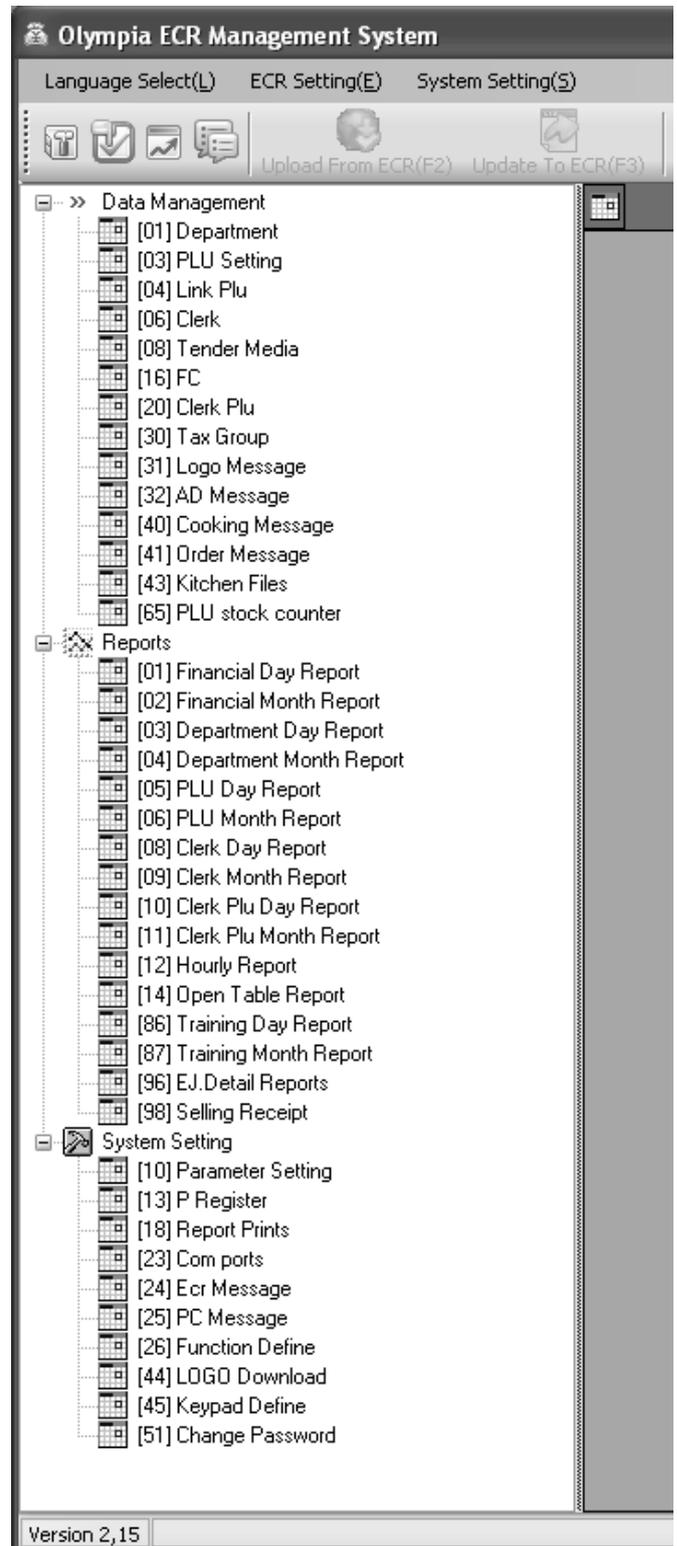

Fig. 9
After you have opened one of the basic programmes supplied or a new file, the programmable contents are listed in a **selection window** on the left (see Fig. 9).
- Click on the plus sign to display the contents which are assigned to the general headings (see Fig. 9).